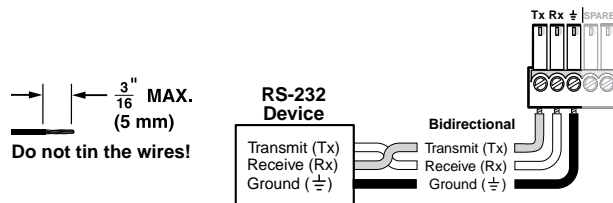

Figure 7. RS-232 insert wiring
- ③ **Output connector** — Connect one end of a terminated TP cable to this RJ-45 female connector. Connect the free end of the same TP cable from the switcher to the RJ-45 female connector on a compatible MTP receiver. See TP Cable Termination to properly wire the RJ-45 connectors.
- ④ **Pre-Peak switch** — The Pre-Peak switch alters the TP signal output to correct for long cable runs. See Table 1 for suggested switch settings based on the transmitted video format and transmission distance.
- ⑤ **RS-232 Insert connector** — For bidirectional RS-232 data that is routed from a common source to the TP output regardless of the selected input, connect a serial device to this 3.5 mm, 5-pole captive screw connector. Figure 7 shows how to wire the connector.